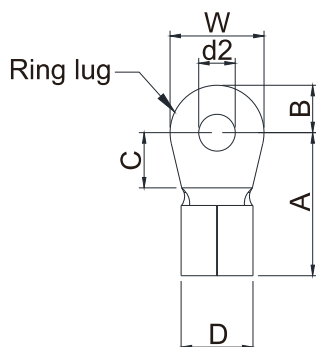

Figure 5-10
- Use the specified ring lug for main circuit terminal wiring. See figure 5-10 and figure 5-11 for ring lug specifications. For other types of wiring, use the wires that comply with the local regulations.
- After crimping the wire to the ring lug (must be UL approved), UL and CSA approved recognized component (YDPU2), install heat shrink tube rated at a minimum of 600VAC insulation over the live part. Refer to figure 5-10 below.